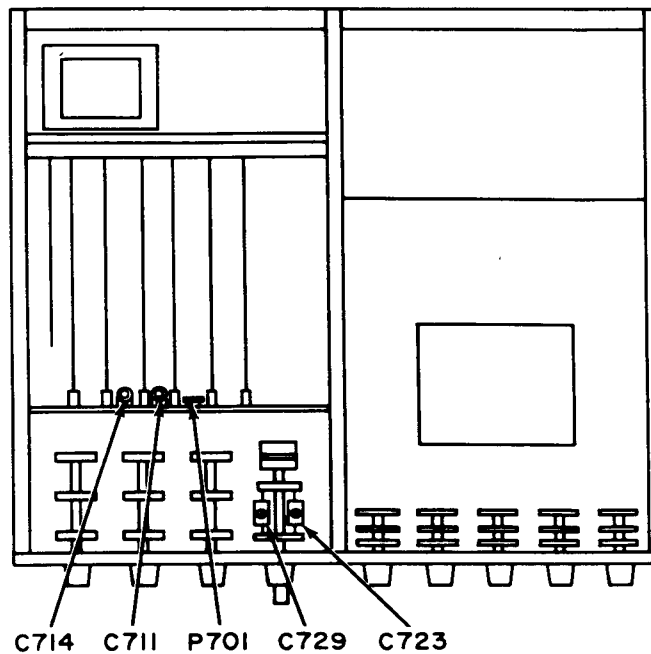
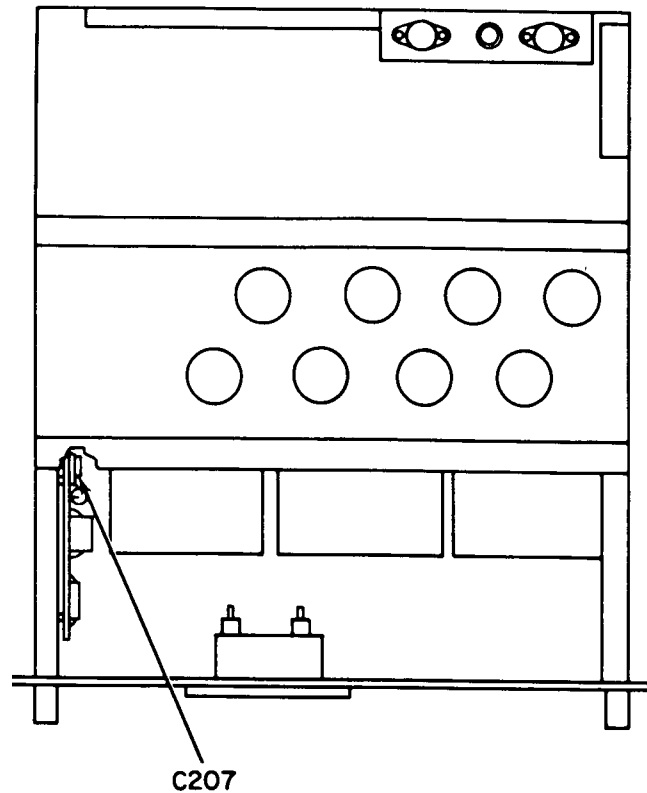

Figure 1. Exciter unit - top view.
Figure 2. Power unit – top view
- (1) Turn **EXCITER UNIT FREQUENCY HZ** controls to **100 X100**.
- (2) Adjust **C729** and **C723** (fig. 1) in the same direction in equal increments until frequency counter indicates 10,000 Hz (R).
- (1) Adjust **P701** (fig. 1) for minimum distortion (R).
- (2) Repeat (1) above at **FREQUENCY HZ** control settings of **200 X100** (20 kHz) and **200 X10** (2 kHz).
- (3) Turn **FREQUENCY HZ** controls to **100 X100** (10 kHz).
- (4) Adjust **C714** (fig. 1) for minimum distortion (R).
- (5) **FREQUENCY HZ** controls to **500 X100** (50 kHz).
- (6) Adjust **C711** (fig. 1) for minimum distortion (R).
- (7) Turn **FREQUENCY HZ** controls to **900 X100** (90 kHz).
- (8) Adjust **C207** (fig. 2) for minimum distortion (R).